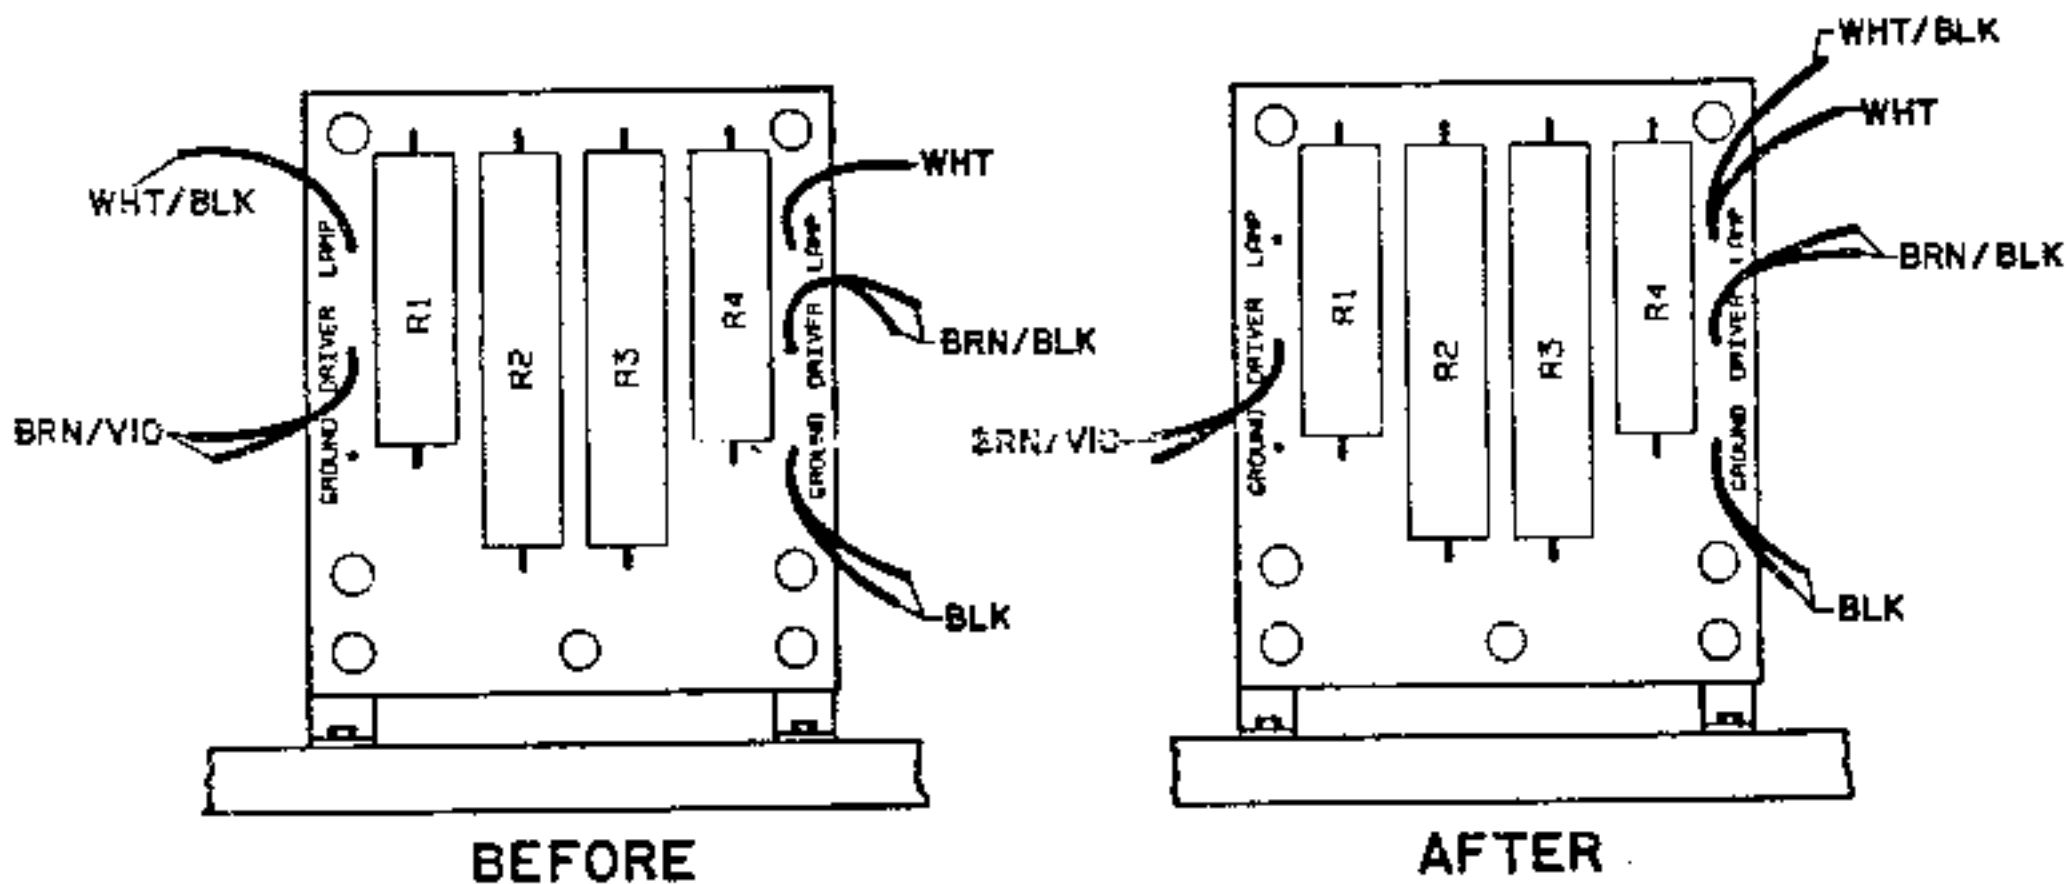

Figure 3. Lamp Resistor Board Connection Changes
- e On the underside of the playfield, locate the lamp resistor board (near the Right Eject Hole microswitch). Unsolder the white/black wire from the LAMP terminal of the board (Figure 3, left side of the "BEFORE" view). Resolder the white/black wire to the white wire (LAMP terminal) on the right side of board. Verify that the wiring now matches the "AFTER" view of Figure 3.